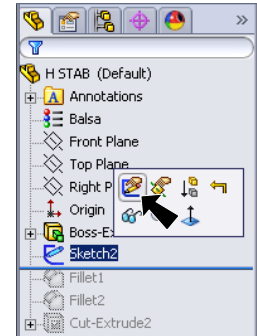

Fig. 41
Step 4. Click **Sketch2** in the Feature Manager and click **Edit Sketch**  on the Content menu, **Fig. 41**.